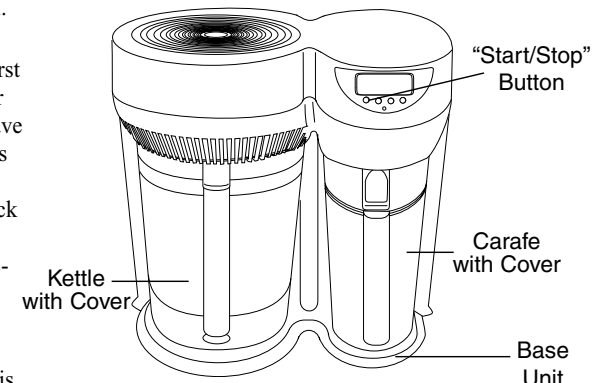

FIGURE 4
10. For Model 8500, press Reset button to turn the Purifier on (fig. 4 Model 8500). Run one batch of water into the carafe.
11. For Model 8800, press the Start/Stop button to turn Purifier on (fig. 4 Model 8800). Run one batch of water into carafe.
2. Unplug the kettle from the base (fig. 4). Twist the cover counterclockwise to remove and set aside.